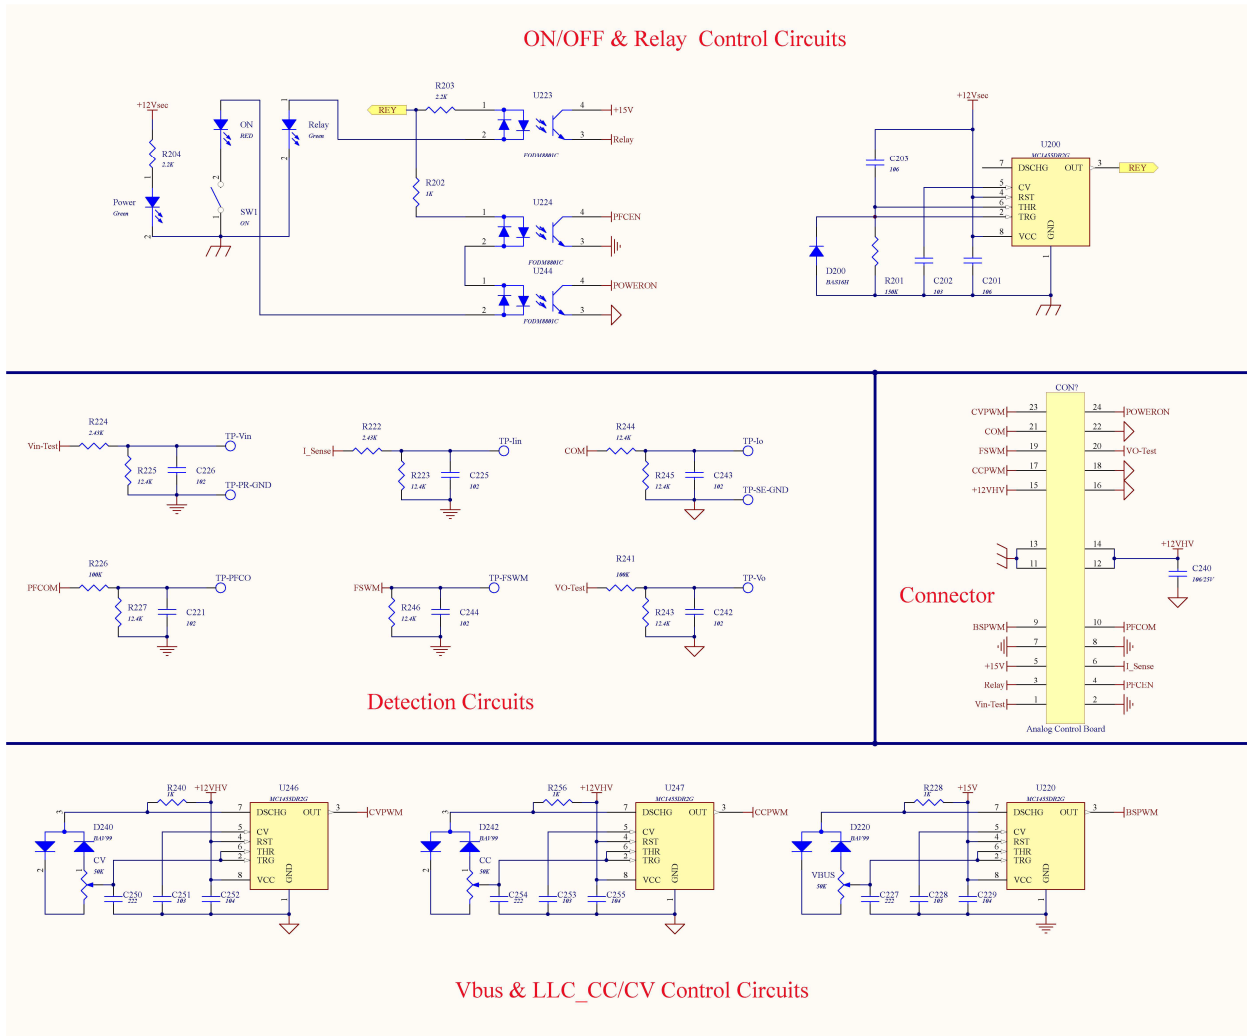

Figure 8. Schematic of the Manual Control Interface Board
In this design, we put the interface circuits on an add-on board for the flexibility. The features of the full function interface board could include the (1) Can communication with the BMS system to report the information like: Input voltage, Input current, Output voltage, Output current, Bus voltage, Output miss-connection, Temperature of the key components. (2) Can communication with the BMS to receive the following command: Power-up, Output voltage, Output current, Power off. (3) Output the CC, CV PWM signals and the power-on and relay-on signals to the main board. (4) Setting the Bus voltage according to the Vin, Vo and LLC switching frequency to get the maximum system efficiency. (5) Connect to Strata Developer Studio for evaluate the solution easily. But, the full function interface board is not ready so far. We use a simple manual control board instead of the full function one. Figure 8 show the schematic of the manual control interface board.